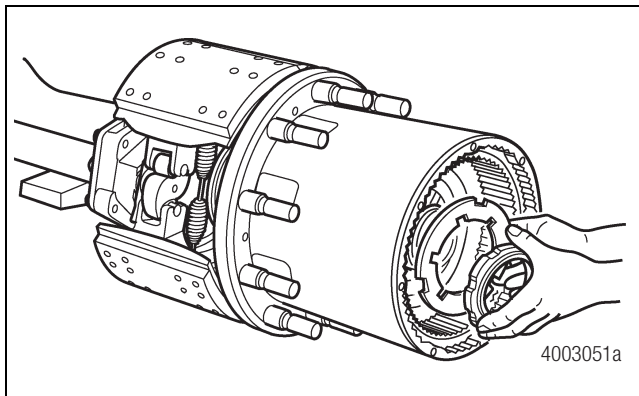
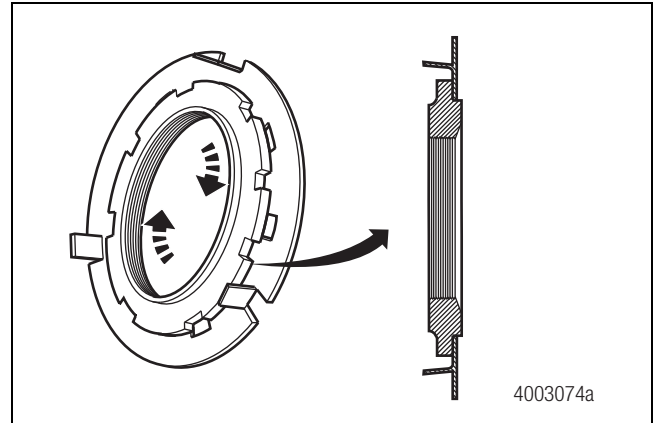

Figure 3.41
Figure 3.42
1. Install a new lock washer and wheel bearing adjusting nut. Figure 3.41. Verify that the lock washer is on the shoulder of the adjusting nut. Figure 3.42.